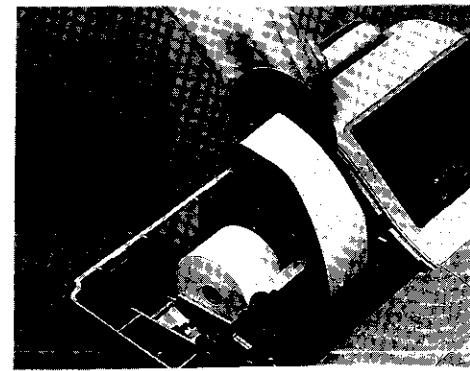

Fig. 1-7.
3. Lift the take-up reel, and insert the leading end of the paper into the slit in the take-up reel (Fig. 1-7). Wind the paper two or three turns onto the reel.